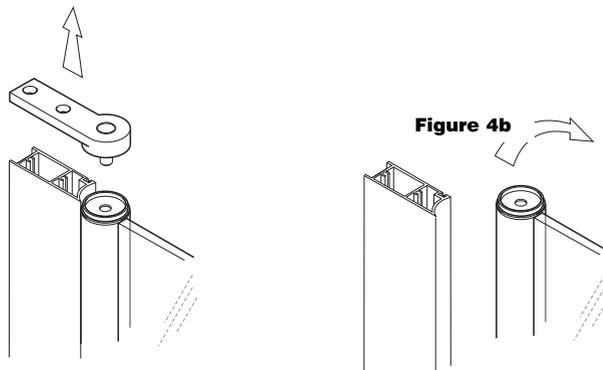

Figure 4b
- b) Lift off end casting, keep plain white moulding located on the screen as shown, Figure 4b.